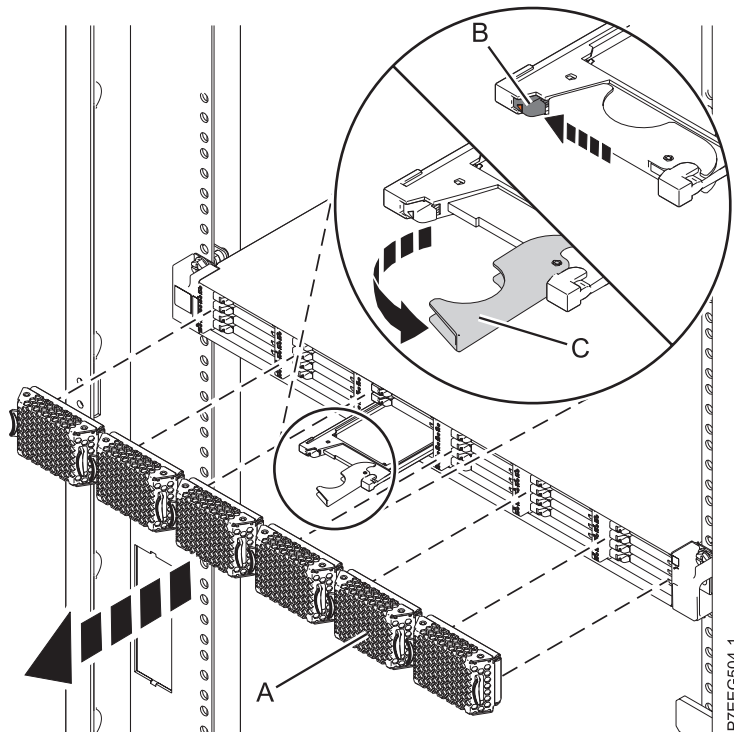

Figure 19. Removing the solid-state drive from the ED/R1 PCIe storage enclosure
- Pull off the bezel (A) that covers the slot containing the solid-state drive.
- Slide the release latch (B) over gently to unlock the drive handle. See Figure 19 on page 31.